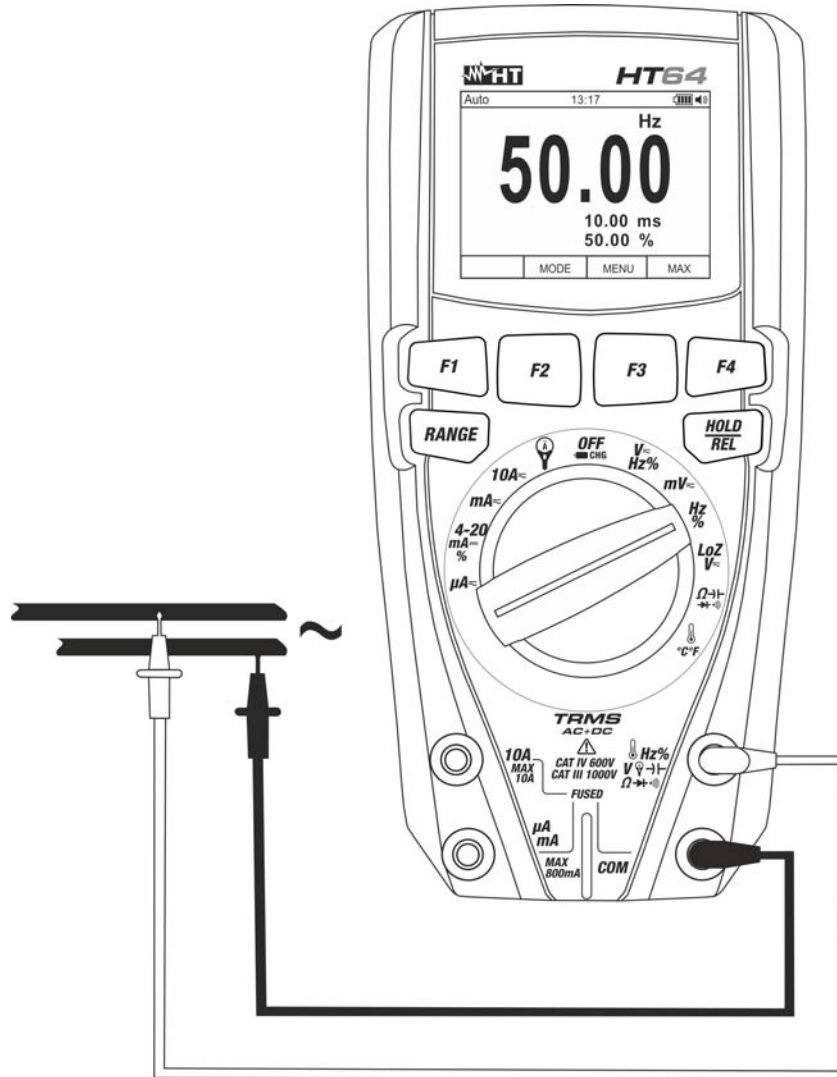

Fig. 25: Use of the instrument for frequency measurement and duty cycle test.
4. Position the red lead and the black lead respectively in the spots of the circuit to be measured (see Fig. 25). The value of frequency (Hz) or of duty cycle (%) is shown on the display. The bargraph is not active in these functions.